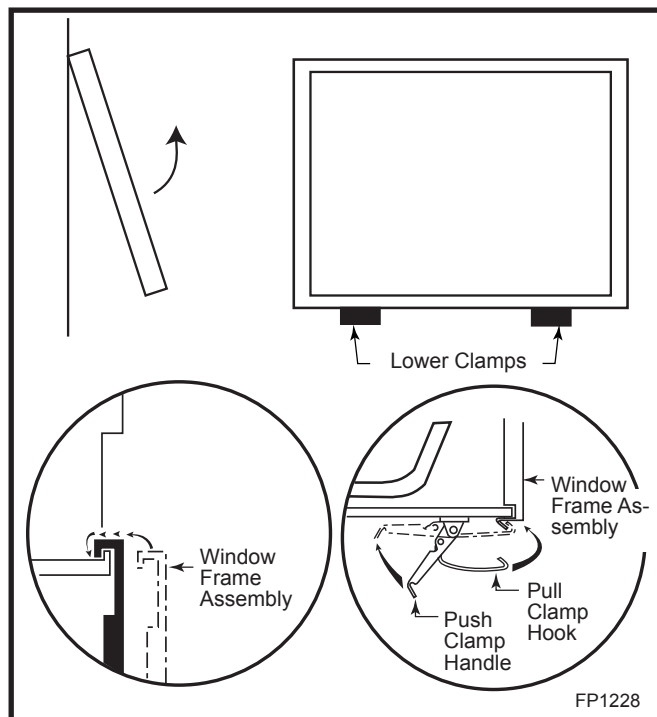

Fig. 38 Window frame assembly removal.
5. Release the two clamps securing the lower edge of the frame by pulling down on the handles. (Fig. 38)